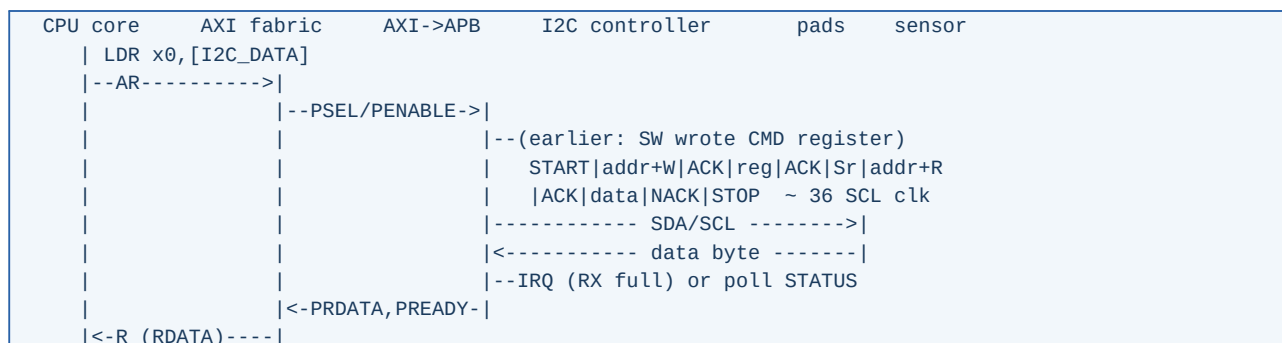

Figure 1.4 - One register read of an I2C sensor crosses a memory-mapped on-chip bus, a bridge, a controller and an off-chip serial protocol.
- For the I2C read of Figure 1.4, count SCL cycles precisely (including ACK/NACK bits) and compute the transaction time at 100 kHz, 400 kHz and 1 MHz. How many 2 GHz CPU cycles is each?